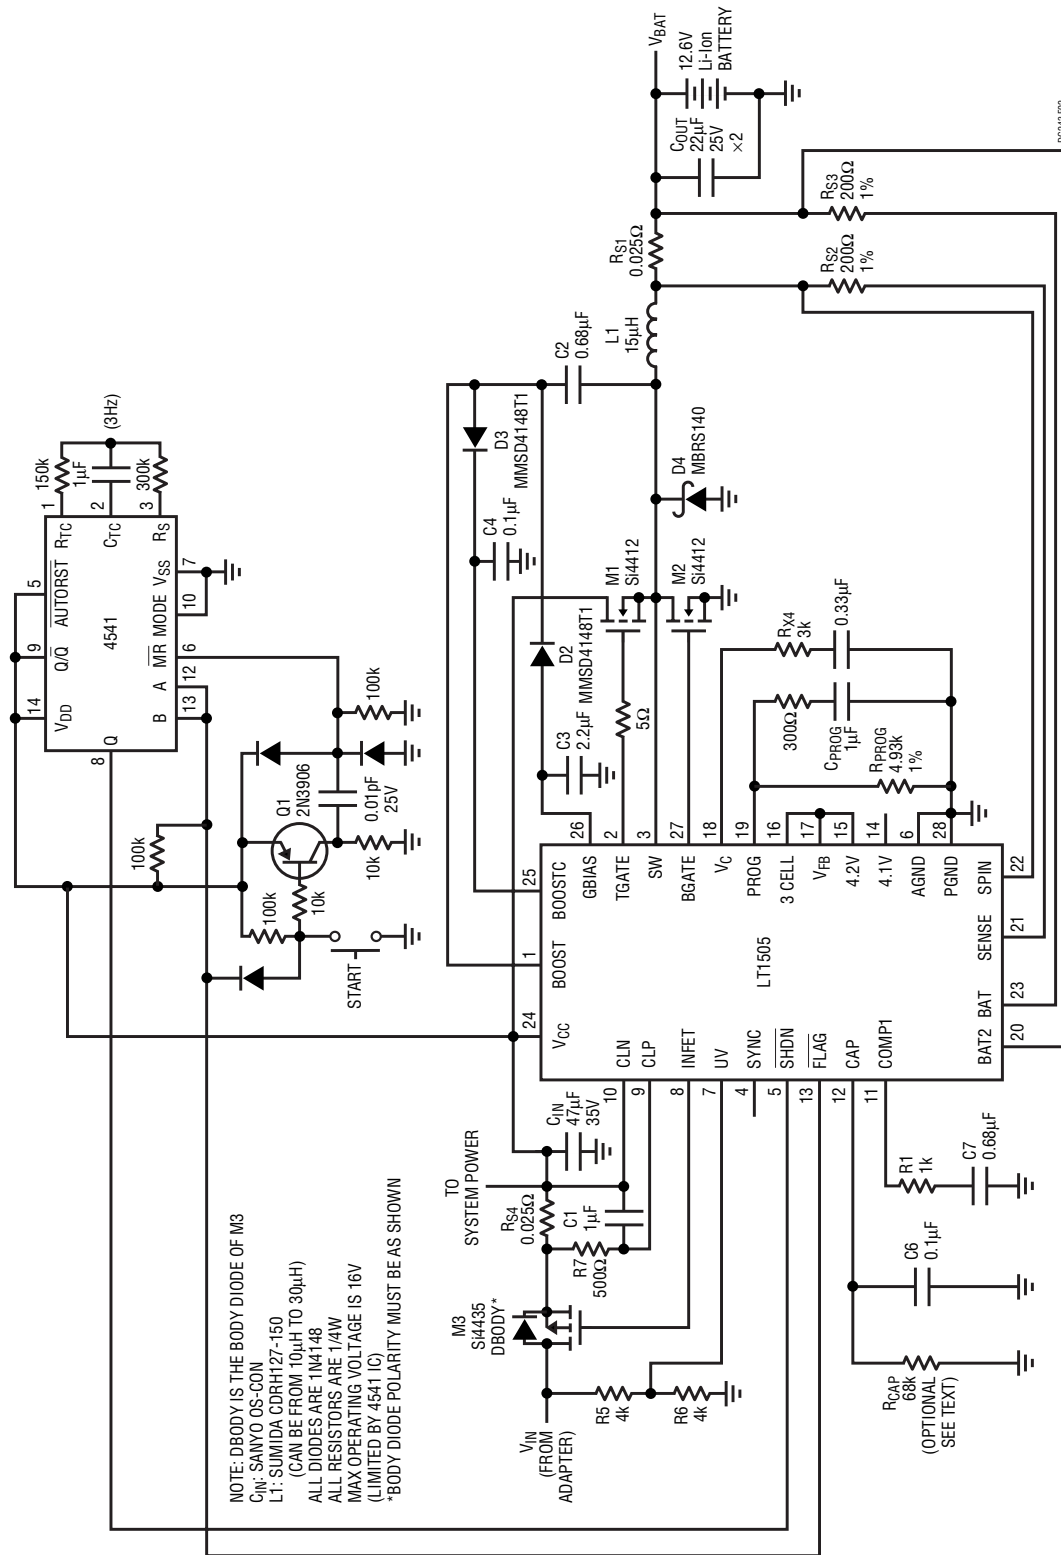

Figure 2. LT1505 Li-Ion Charger with Termination
The circuit in Figure 2 uses a CD4541 programmable timer IC controlled by the LT1505. When a low-true reset start pulse, created by the pulse circuit around Q1, is sensed by the MR(L) pin of the CD4541, the internal counters are reset and begin counting at a rate of 3Hz for  $2^{16}$  (65,536) counts, or approximately three hours. If the FLAG pin of the LT1505 goes low, a new reset pulse is generated and the count is changed to  $2^{13}$  (8192) counts or approximately 45 minutes.